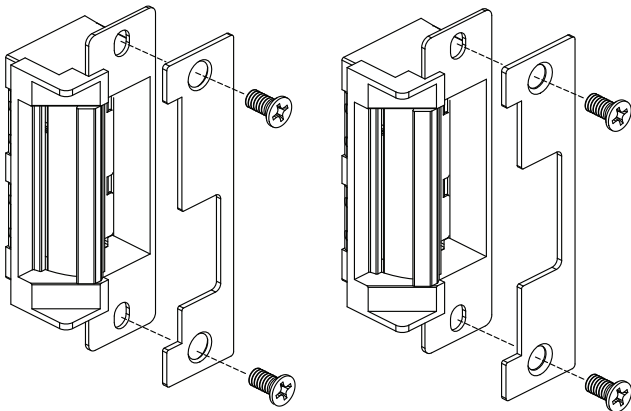

Figure 5: Faceplate Options
6. CHOOSE the appropriate faceplate for the strike as shown in Figure 5, "Faceplate Options," on Page 3.